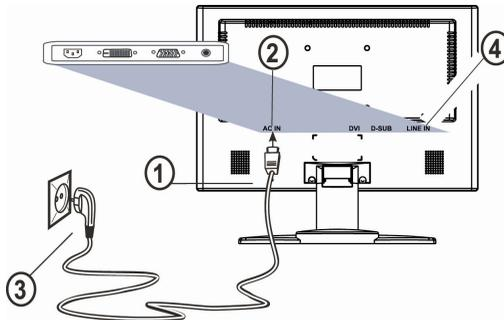

Figure 3. Connecting the monitor to the power source
If your computer is equipped with an audio output port, connect one end of the sound cable to the audio Input connector of the monitor (④ in fig. 3) and the other end to the Line-Out connector of the computer.
1. Connect the separate power cable (① in fig. 3) to the power socket of the monitor (② in fig. 3).
2. Connect one end of the power supply cable (③ in fig. 3) with the power supply and plug it into an electrical outlet.
1. Connect the "phone Jack to RCA Jack" to audio Input connector of the monitor (④ in fig. 3) and audio output connector of multimedia device.